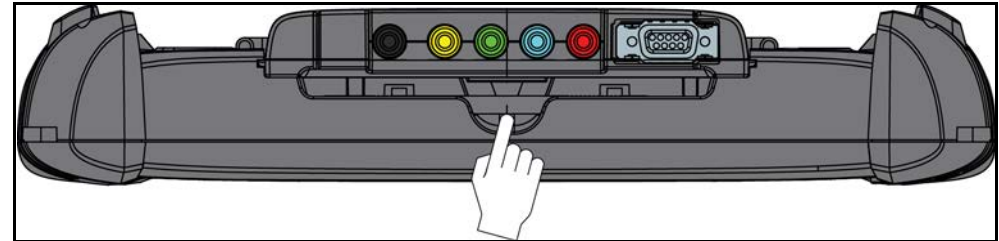

Figure 8-6 Scope Module release tab
1. Depress the Scope Module release tab located on the top of the diagnostic tool (*Figure 8-6*).